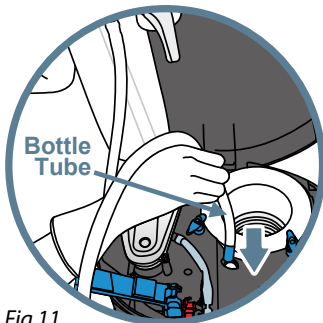

Fig 11
12. Wearing gloves, feed the new bottle tube through the hole indicated (Fig 11).